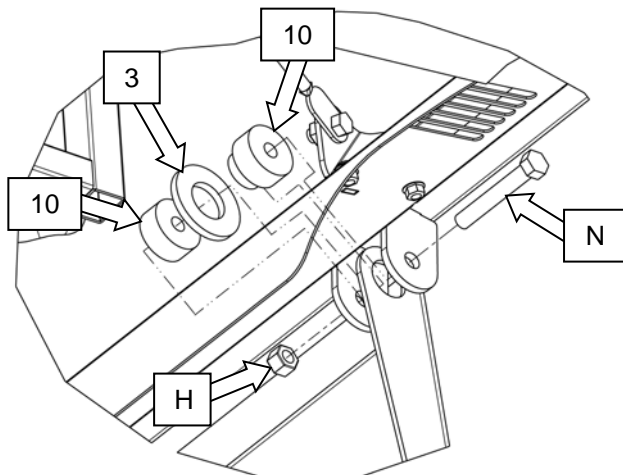

Figure 6
- (4) 1/2" Nylock nuts (H)
- 11) Secure back of cab to top of rear mount using **(Figures 6 & 7)**;